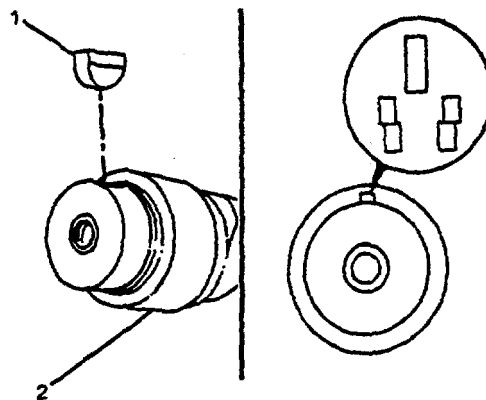

FIGURE 4-65. Camshaft Key Removal/Replacement.
- h. Remove the camshaft key (1, FIG. 4-65) from the shaft (2). Clean the parts.
- o. Install correct camshaft key (1, FIG. 4-65).